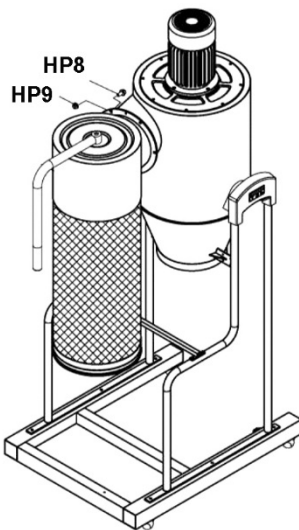

Figure 9
10. Place gasket (W) between canister filter and main housing. Install canister filter onto main housing, and tighten with flange head screws (HP8) and nuts (HP9). See Figure 9.